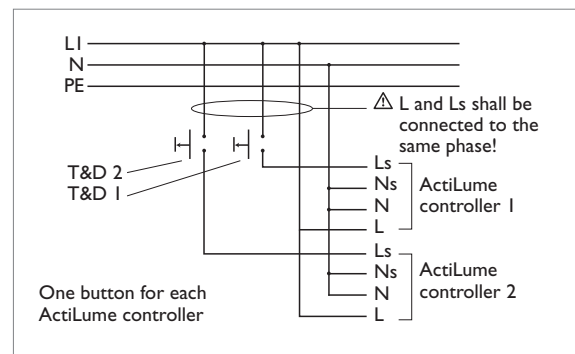

Figure 37
Push buttons can be connected into parallel, enabling lights to be dimmed from multiple positions in the room, see Figure 37.
- The system is suitable for 1-phase. The push button shall be connected to the phase, which is also used for the ActiLume controller (LI in Figure 37).
The wiring diagram as it should be is shown in Figure 37.